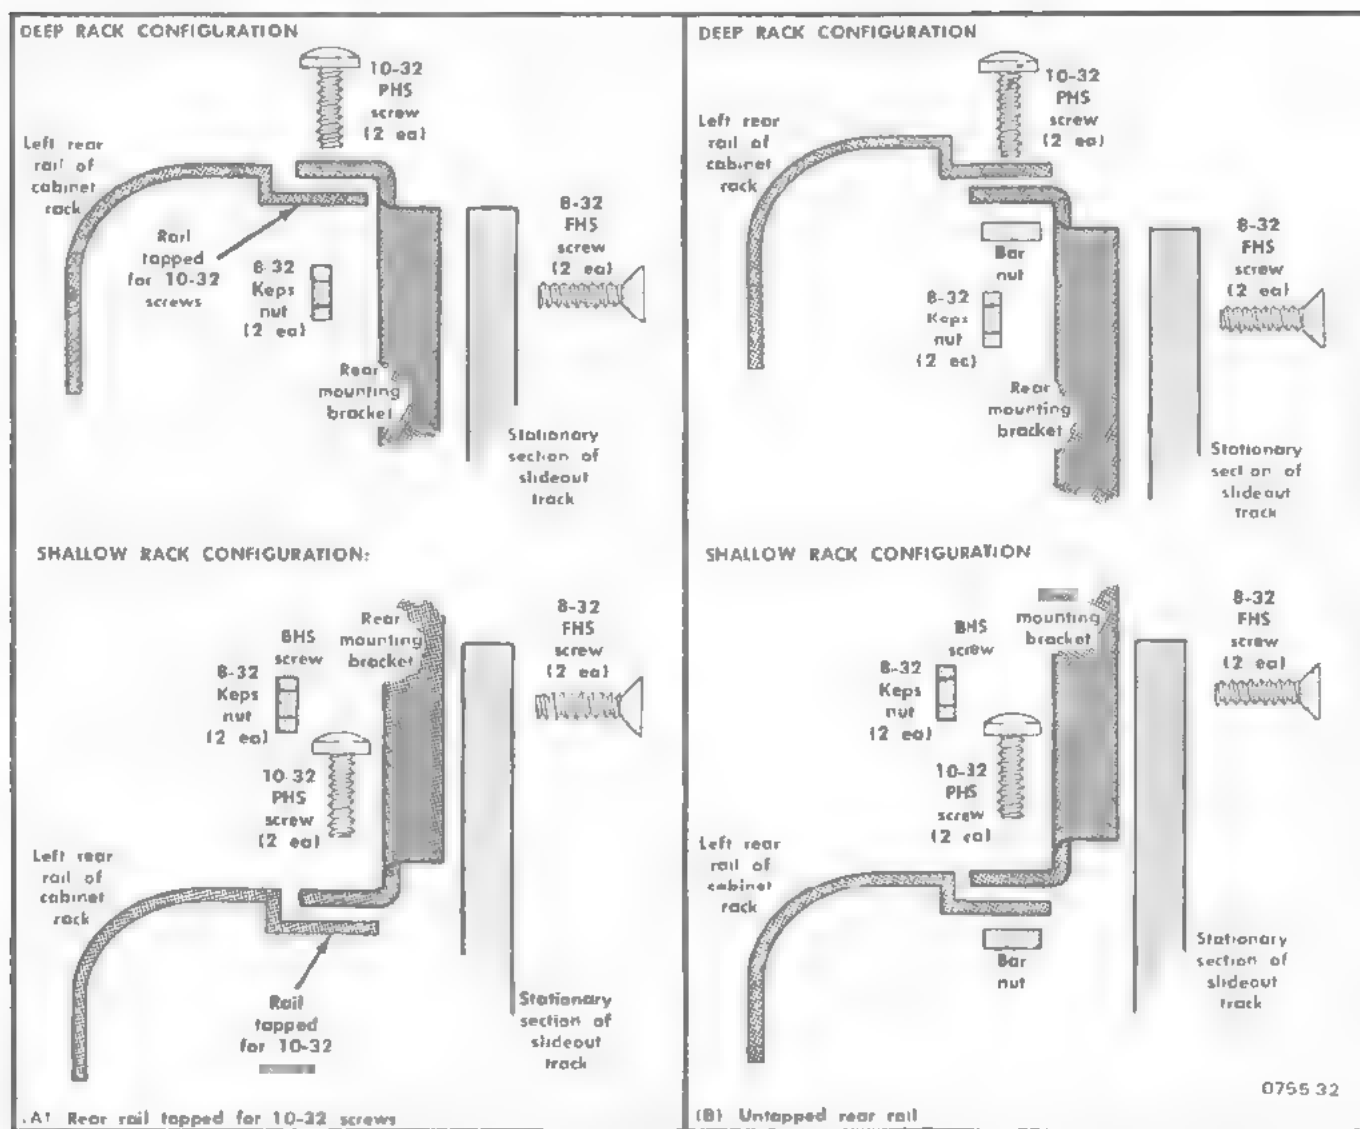

Figure 2-19. Alternative method of installing the instrument using rear support brackets
An alternative method of supporting the rear of the instrument is shown in Figure 2-19. The rear support brackets supplied with the instrument allow it to be mounted in a rack which has a spacing between the front and rear rails of 11 to 24 inches. Figure 2-19(A) illustrates the mounting method if the rear rails are tapped for 10-32 screws, and Figure 2-19(B) illustrates the mounting method if the rear rails are not tapped for 10-32 screws. The rear support kit is not used for this installation.